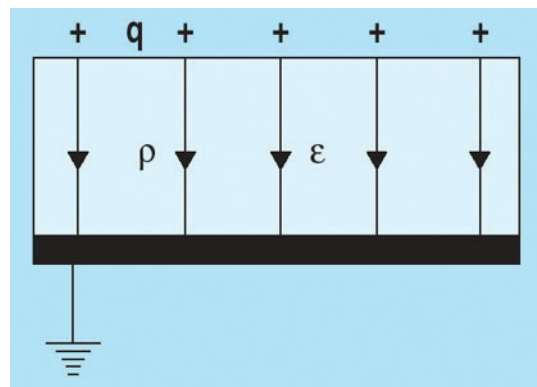
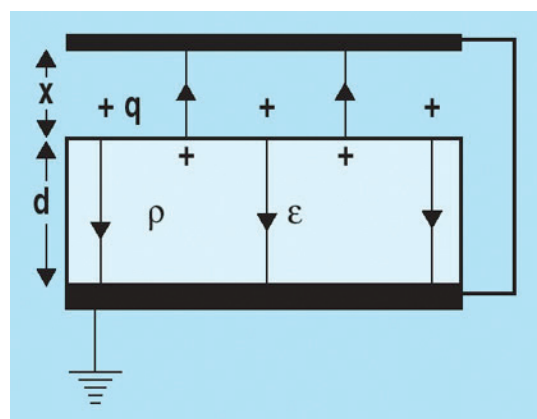
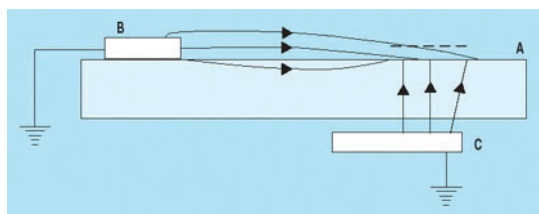

Figure 1: Bulk decay of charge, situation 1.
Figure 2: Bulk decay of charge, situation 2.
Figure 4: Surface decay of charge, situation 2.
Let's look at a simple example. Figure 1 (situation 1) shows a piece of a material, with the resistivity  $\rho$  and the permittivity  $\epsilon$ , resting on a grounded plane. A charge  $q$  is evenly distributed on the surface of the material. We assume that the distance to other grounded objects is much larger than the dimensions of the charged sample.
Now back to the more-complex situation. Figure 2 (situation 2) shows a sample with the thickness  $d$ , permittivity  $\epsilon$ , and resistivity  $\rho$ , resting on a grounded plane, like that shown in Figure 1. But in this case another grounded plane is placed parallel to the sample at a distance  $x$ . Let us assume that the sample is Plexiglas, and that the space above the sample is vacuum (or air) with  $\epsilon = \epsilon_0$  and  $\rho \approx \infty$ . The field (flux) from the charge is now shared between the Plexiglas and the air in
The example shown in Figure 2 is a very simplified case, and often it will not be
**Surface Resistivity.** Special cases are the ones in which neutralization takes place in a shallow layer on the surface of the material. This could be a material treated with an antistatic agent or an insulative substrate onto which a conductive layer is evaporated. If such a layer is highly conductive as compared with the contacting materials, the neutralizing current will run only in this layer. However, part of the flux from the charge will run in the adjoining layers, and the “driving field,” that is, the field in the conductive layer, will depend upon the permissive properties of the adjoining insulators. Thus the rate of decay (and the time constant) will depend not only on the properties of the region where the decay takes place, but also on properties outside the region of decay. This is, in principle, the same problem shown in Figure 2. Usually the processes in thin layers are characterized by defining a surface resistivity  $\rho_s$  (in a way similar to the definition of bulk resistivity) by the equation
Although in the matter of bulk resistivity it is possible in certain simplified cases (Figures 1 and 2) to derive a connection between the resistivity and the rate at which a charge is being neutralized, it is not nearly as simple in the matter of surface resistivity.
Figure 4 (situation 2) shows a state similar to situation 2 for bulk decay (see Figure 2). Another grounded conductor C is in the neighborhood of the charged sample, but not in direct contact with it, so no neutralizing current will flow to C. And since the flux to B is now lower, so is the neutralizing current, and the time constant will